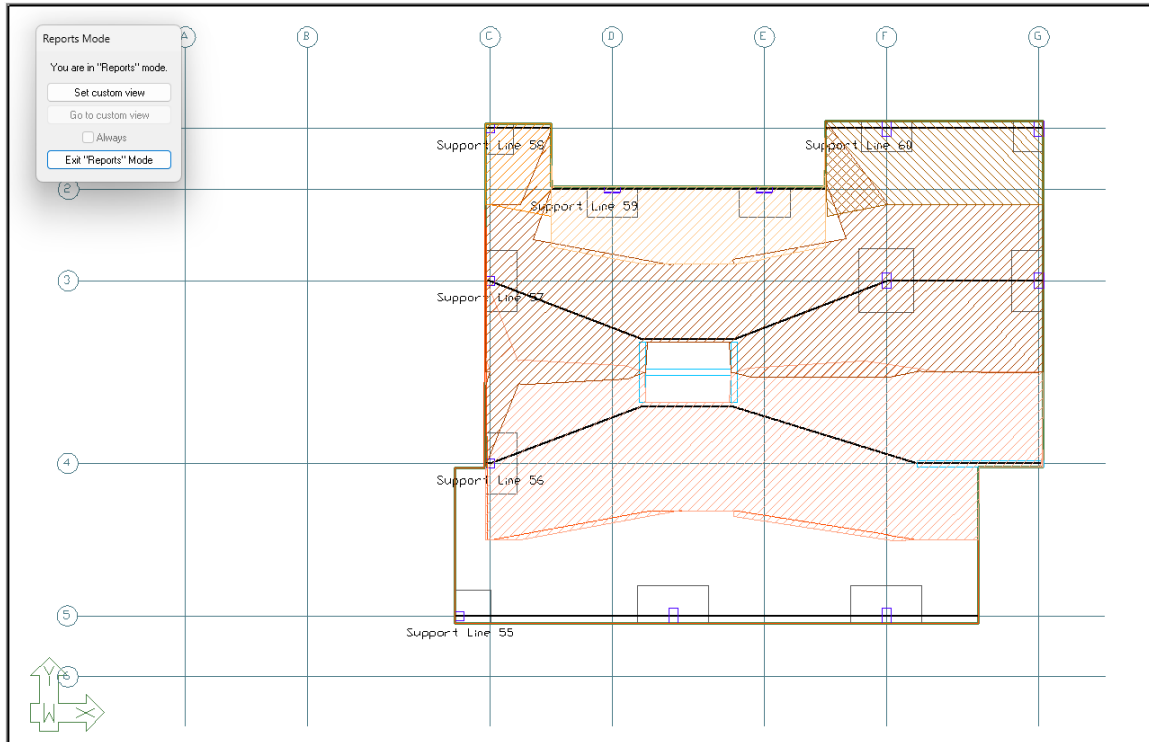

FIGURE 10-9
- Click **OK** on the next window that opens to view the report, as shown in **FIGURE 10-9**.